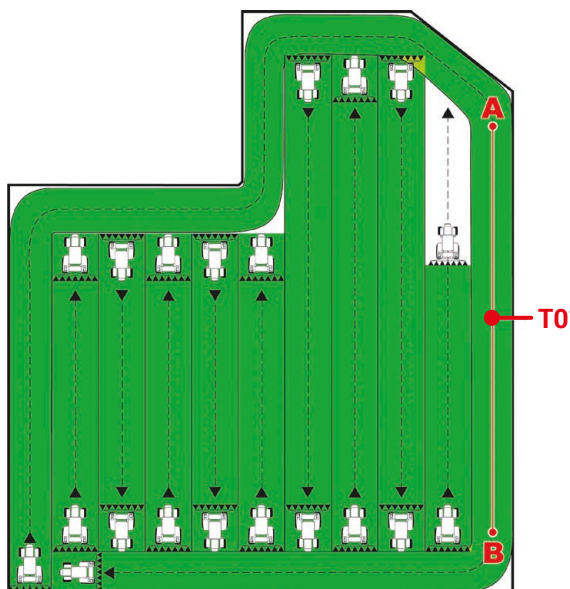

Fig. 253
• Once the line from A to B has been marked (T0), it will be possible to spray the rest of the field along parallel lines, (Fig. 253), by following the reference tracks shown on the display (Fig. 254).